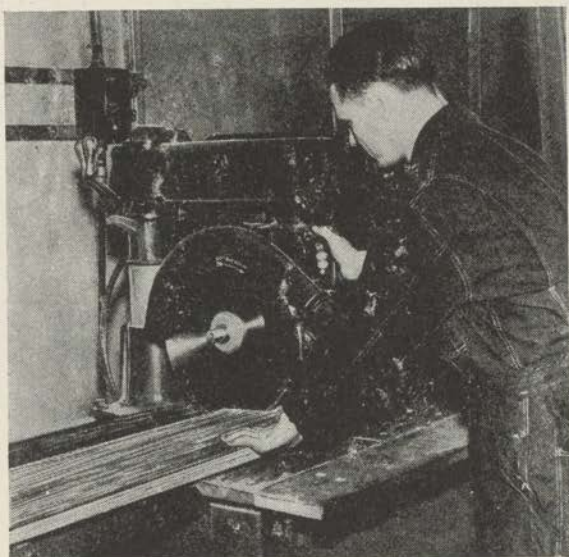

FIGURE 59.—Cut-off saw.
a. Cut-off saw (fig. 59).—These are used mainly to cut long lumber down to the approximate length required. The universal cut-off saw may be set for miter, bevel, or rip sawing, as well as straight cut-off sawing, or it may be equipped with a dado head.